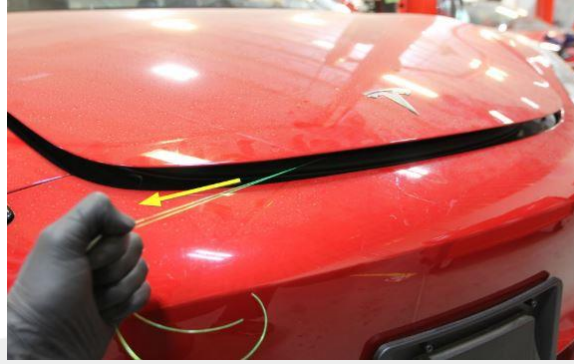

Figure 12
11. Pull the string to release the secondary hood latch, and then open the hood (Figure 12).